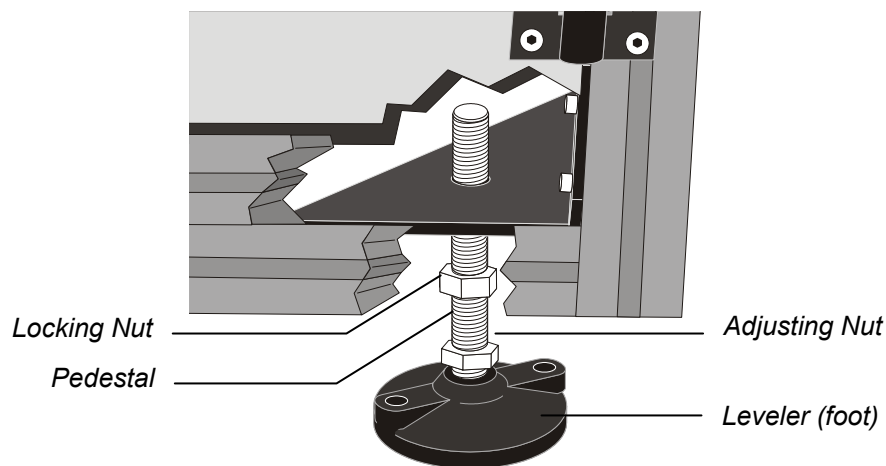

Figure 4-1 Leveler Height Adjustment
3. If necessary, adjust the Levelers (feet) as follows (Figure 4-1):